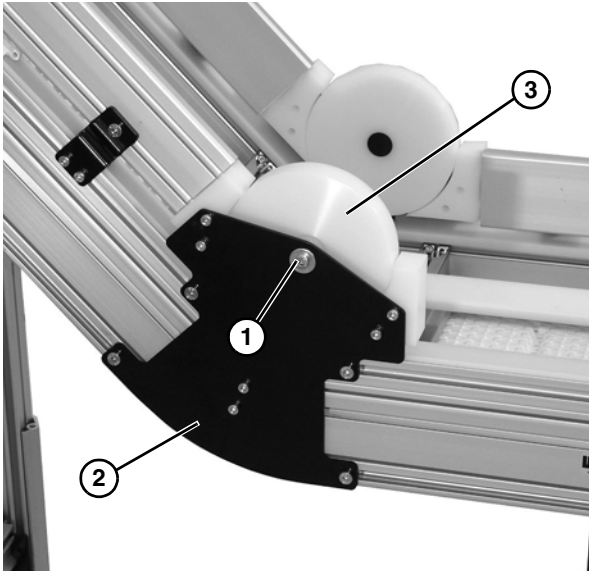

Figure 65
1. Remove cap screw (**Figure 65, item 1**), washer, and spacer on side of lower knuckle assembly (**Figure 65, item 2**), and remove hold down guide (**Figure 65, item 3**). Repeat on opposite side.